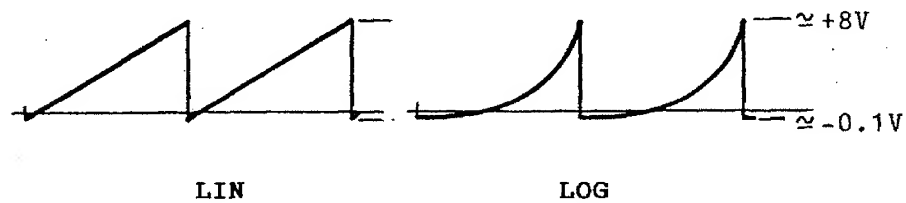

Figure 3-3
- Confirm that the waveform as shown in Figure 3-3.